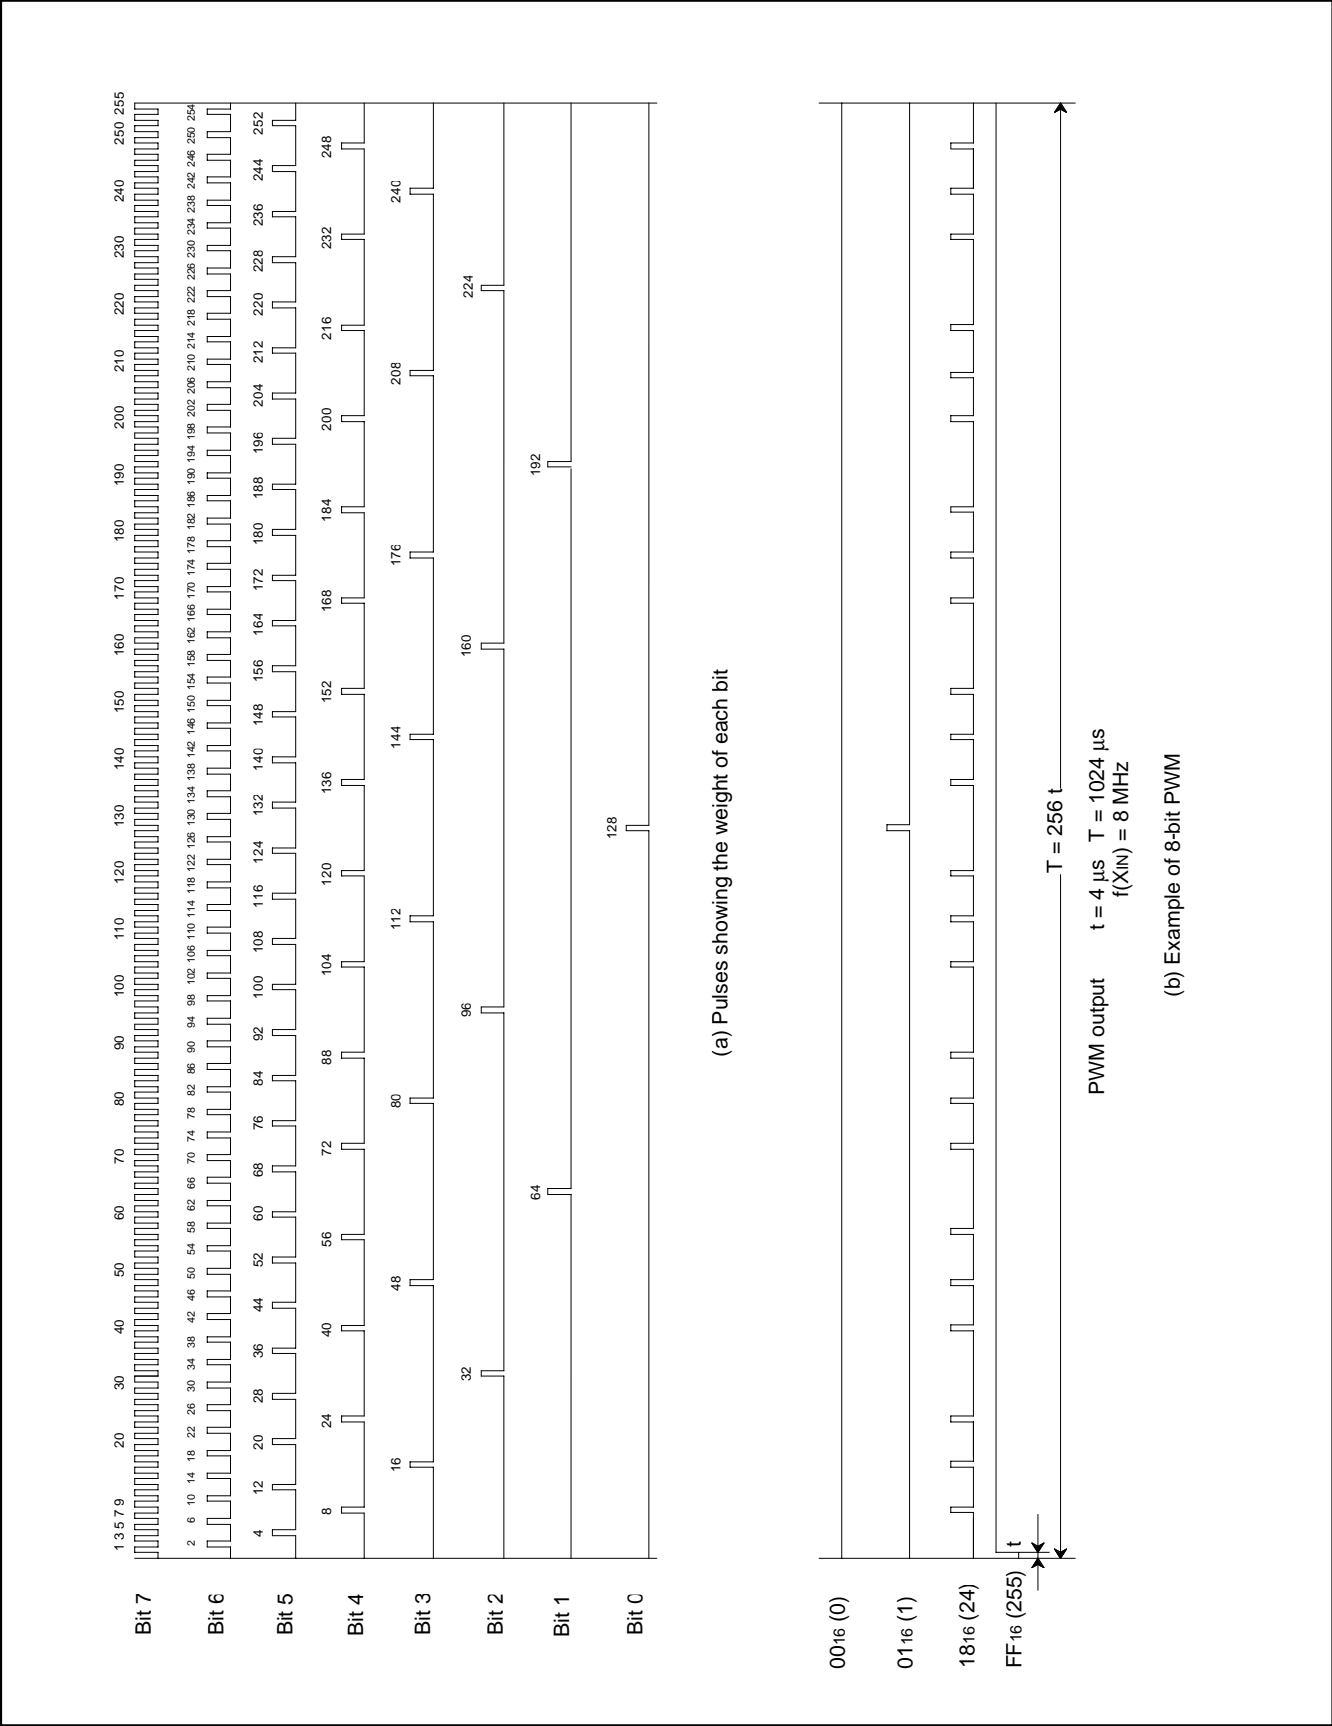

Fig. 8.7.2 PWM Timing
Figure 8.7.2 shows the 8-bit PWM timing. One cycle (T) is composed of 256 (2^8) segments. The 8 kinds of pulses, relative to the weight of each bit (bits 0 to 7), are output inside the circuit during 1 cycle. Refer to Figure 8.7.2 (a). The 8-bit PWM outputs waveform which is the logical sum (OR) of pulses corresponding to the contents of bits 0 to 7 of the 8-bit PWM register. Several examples are shown in Figure 8.7.2 (b). 256 kinds of output (HIGH area: 0/256 to 255/256) are selected by changing the contents of the PWM register. A length of entirely HIGH output cannot be output, i.e. 256/256.